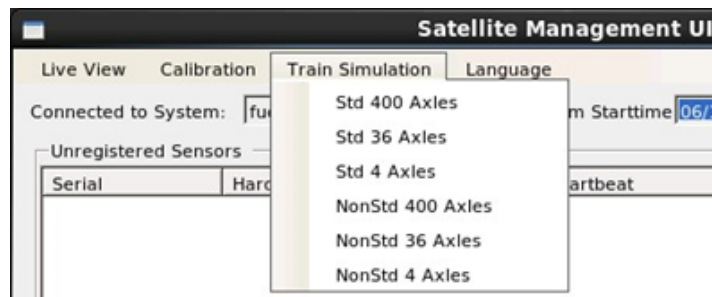

Figure 1 - Drop-down menu "Train Simulation"
- f) The dropdown menu shown in Figure 1 appears.